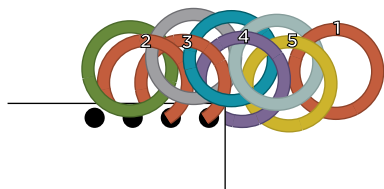

FIG. 8
15. Thread the open jump ring through the base-row (yellow) jump ring at the finishing end of the chain, moving right to left from behind it. Then thread the open jump ring through the adjacent base-row (purple) jump ring, moving left to right from the front. Close the open jump ring (**FIG. 8**).